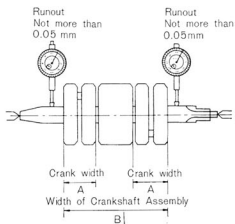

Fig. 4-16-24
- Check the width of the cranks and runout of the crankshaft assembly. (Fig. 4-16-24)